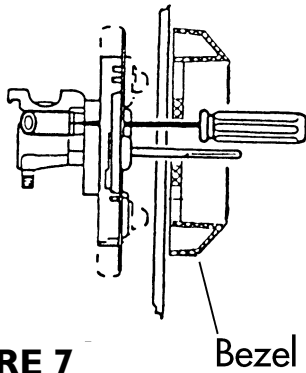

FIGURE 7
5. The bypass jet must be turned clockwise with a small flat-bladed screwdriver until fully seated to set proper low flow rate. **See Figures 7 and 8**, above.